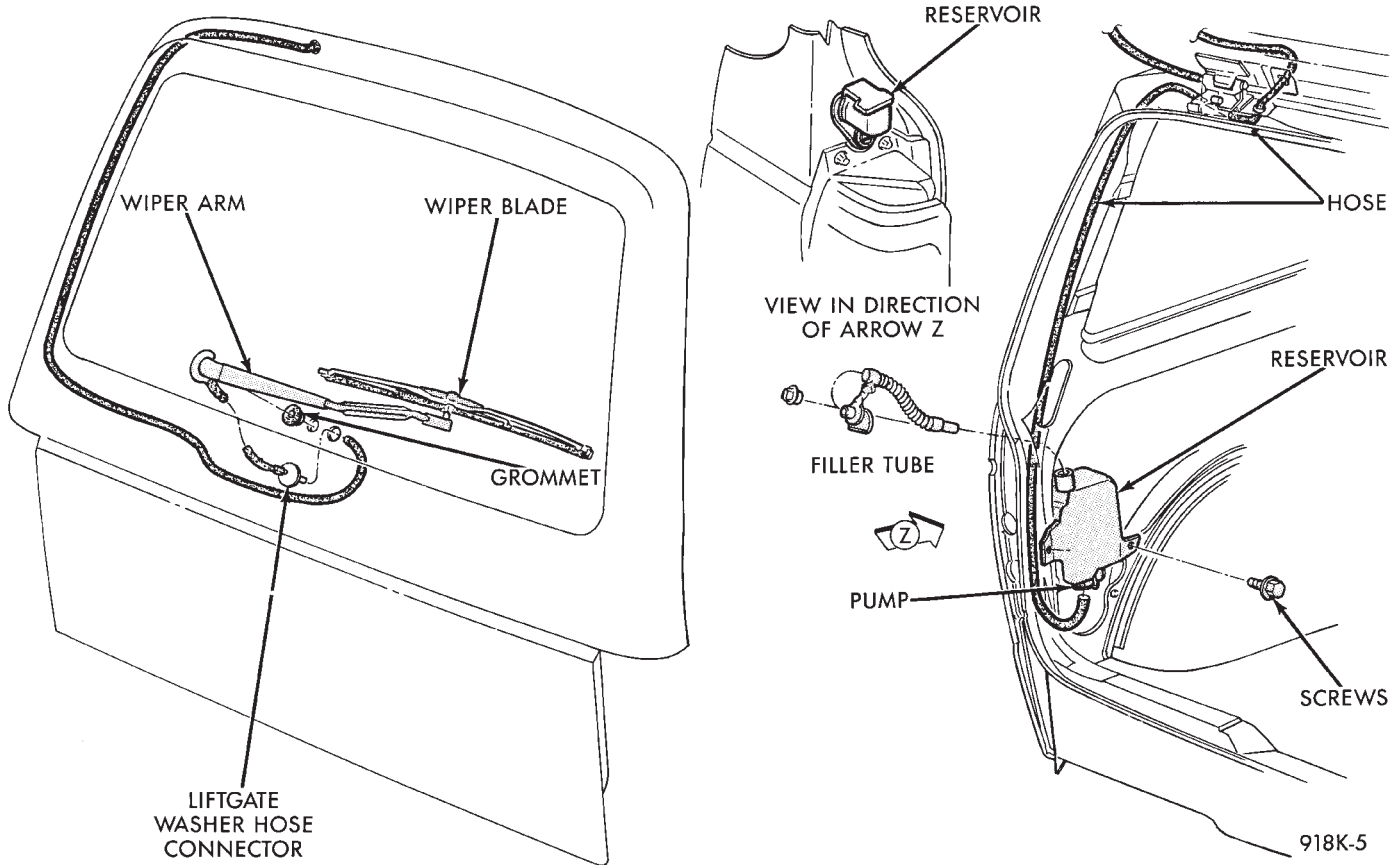

Fig. 22 Liftgate Washer System
(1) Unlock and open the liftgate.
(2) Remove two side aperture panel and reservoir mounting screws (Fig. 22).
(3) Disconnect the wiring harness from the washer pump.
(5) Disconnect the washer hose from reservoir system, block the liquid outlet to prevent the liquid from running out while removing the reservoir.
(6) Remove one upper reservoir screw.
(7) Remove reservoir and pump assembly through the side aperture panel access hole. Work filler tube off reservoir. Empty the reservoir outside of vehicle.
(8) For installation reverse above procedures.